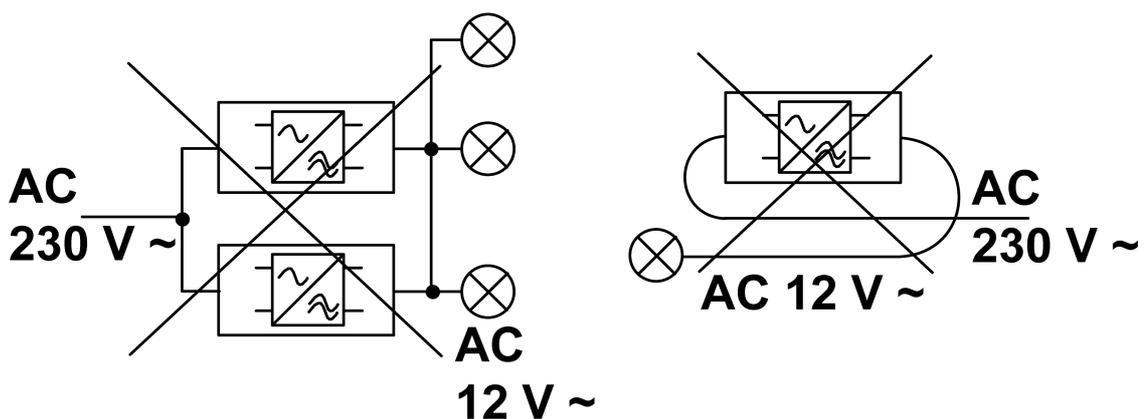

Figure 2
- i** Do not connect secondary cable with additional Tronic transformers (Figure 2).
- i** Do not route secondary cable parallel to mains cable or Tronic transformer (Figure 2).